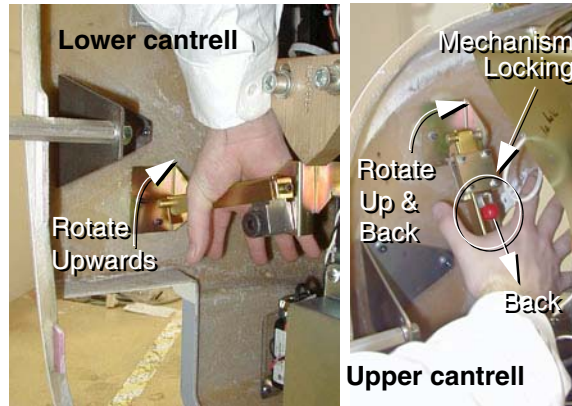

Figure A-11 Releasing cover brackets
- 1.) Using steady but firm pressure, lift each of the lower cantrell brackets from their associated retainers (see Figure A-11).